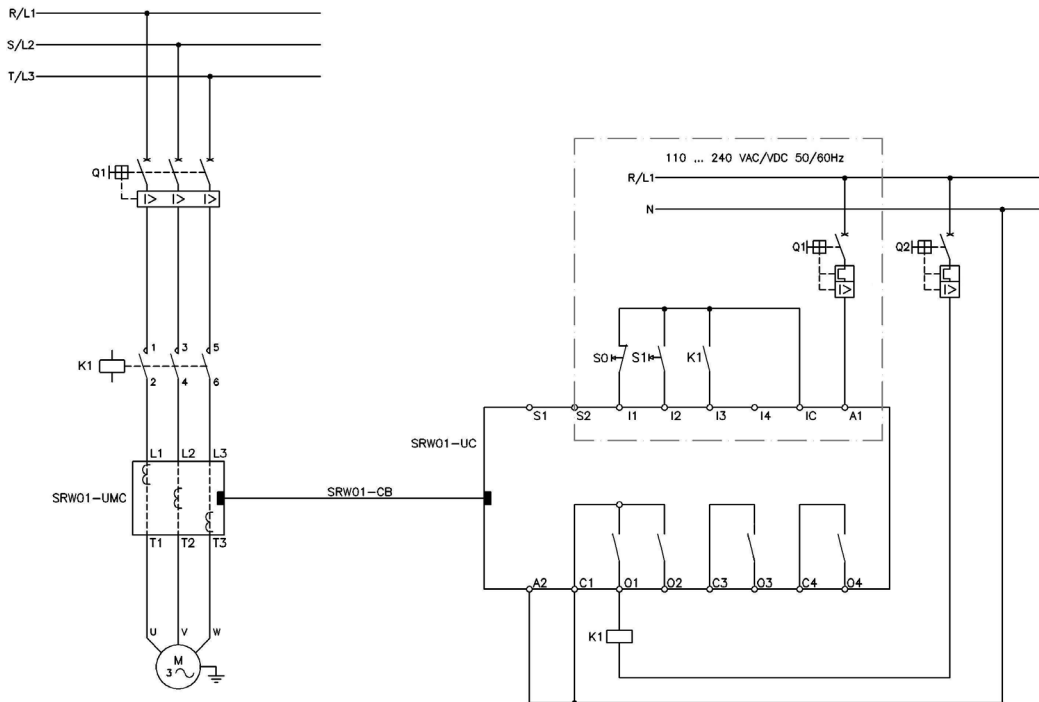

Figure 5.6 - Connection scheme for the Direct Starting Operation Mode using digital inputs at 24 Vdc and driven by pushbuttons (P230 = 1)
The scheme on figure 5.6 shows an example of the use of the Control Unit (UC) on the Direct Starting operation mode with drive through the digital inputs (P229 or P232 = 0) at 24 Vdc using control logic of control with three wires (pushbuttons) (P230 = 1).